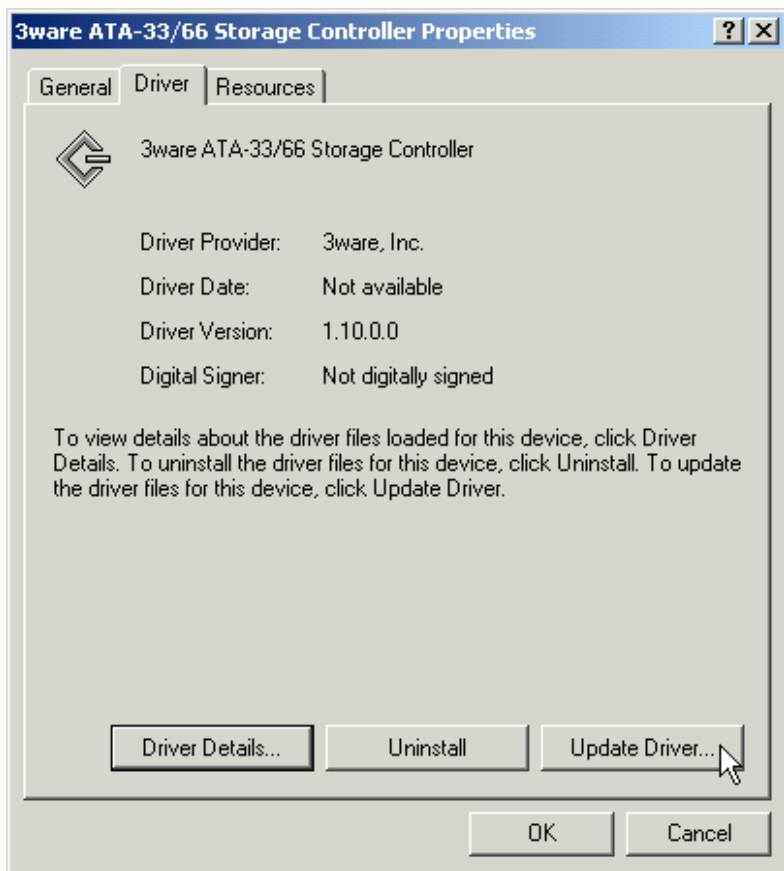

Figure 26. 3ware Storage Controller Properties Display
- 7 Click on the **Driver** tab (see Figure 26).